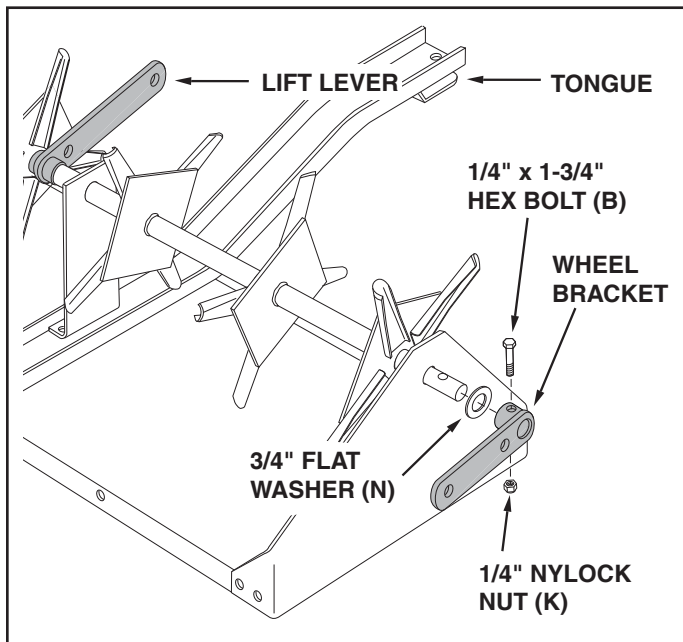

FIGURE 8
12. Standing behind the tray, place the **long end** of the shaft through the end plate on your right as shown in figure 8. Place the other end of the shaft through the end plate on your left. Make sure the bent end of the middle brace rests flat inside the tongue.
13. Assemble a 3/4" flat washer (N) and a wheel bracket onto each end of the shaft. Turn each wheel bracket to point in the opposite direction from the lift lever. Secure each wheel bracket with a 1/4" x 1-3/4" hex bolt (B) and 1/4" nylock nut (K). **Tighten.** See figure 8.